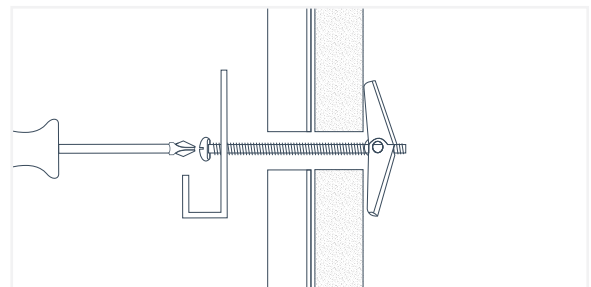

Fig. 44
3. Fold the wings down and insert the end of the bolt into the hole. Push the entire assembly into the hole until you feel the wings pop out behind the Wall&CeilingBoard panel or backer material (Fig. 44).